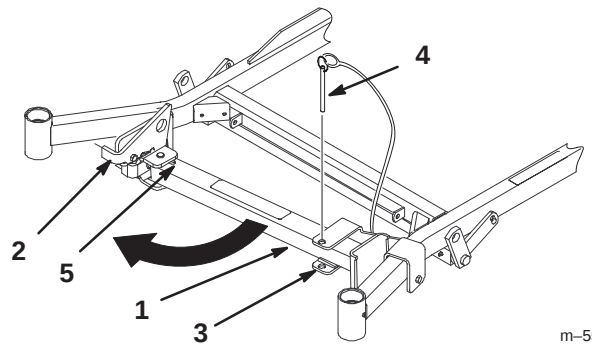

Figure 24
2. Remove bracket pin (Fig. 24).
3. Raise latch. Swing stand foot out front and slide stand toward machine, into the bottom of slot (Fig. 24 and 25).
4. Return stand to its rest position (Fig. 24).